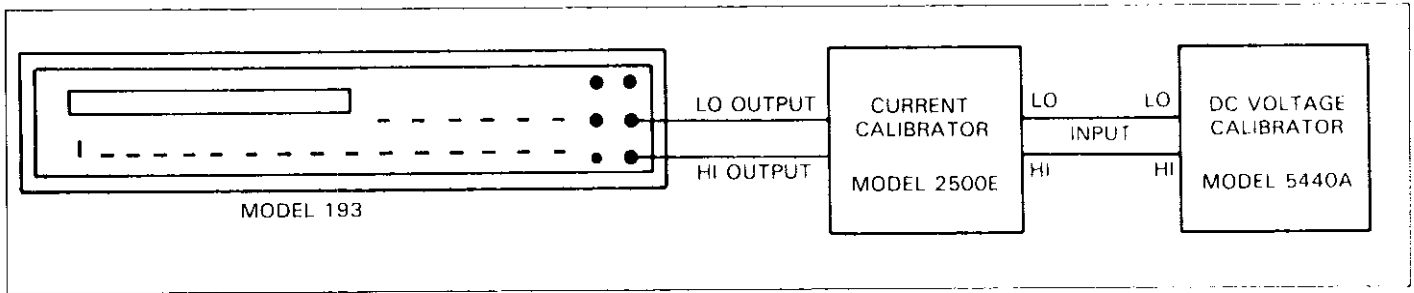

Figure 4-5. Connections for DC Current Verification
2. Connect the DC current calibration source to the Model 193 as shown in Figure 4-5.